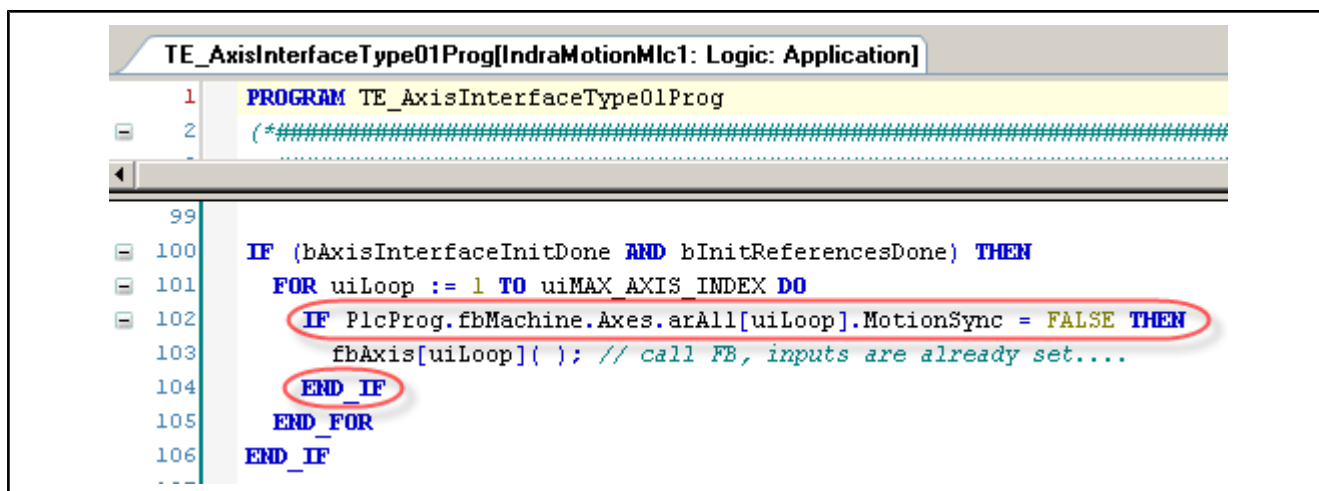

Fig. 7-19: Flag query MotionSync = FALSE
- Add action actMotionTask. Copy the call loop for the function block fbAxis() (see fig. 7-19 "Flag query MotionSync = FALSE" on page 137). Create new loop variable uiLoopMotionSync (do not use uiLoop!); change flag query MotionSync to TRUE.